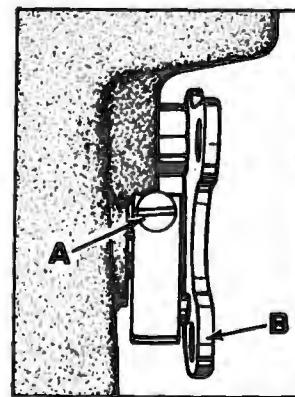
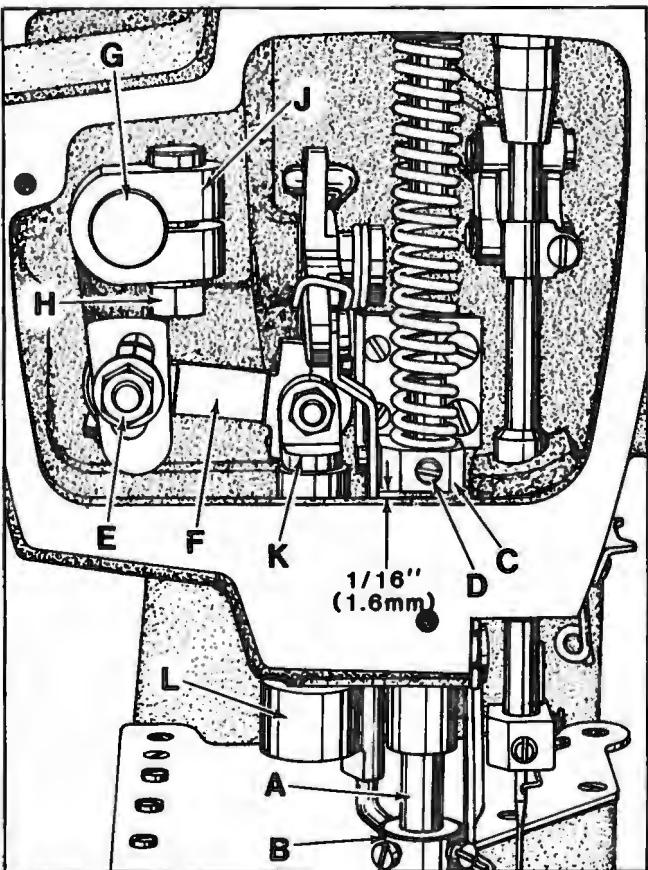
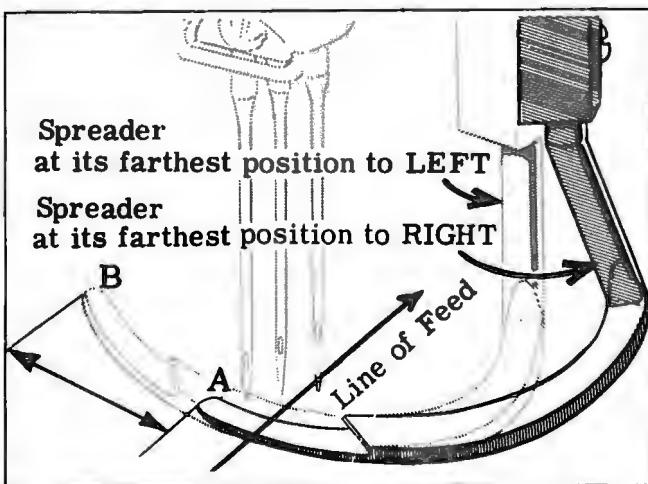
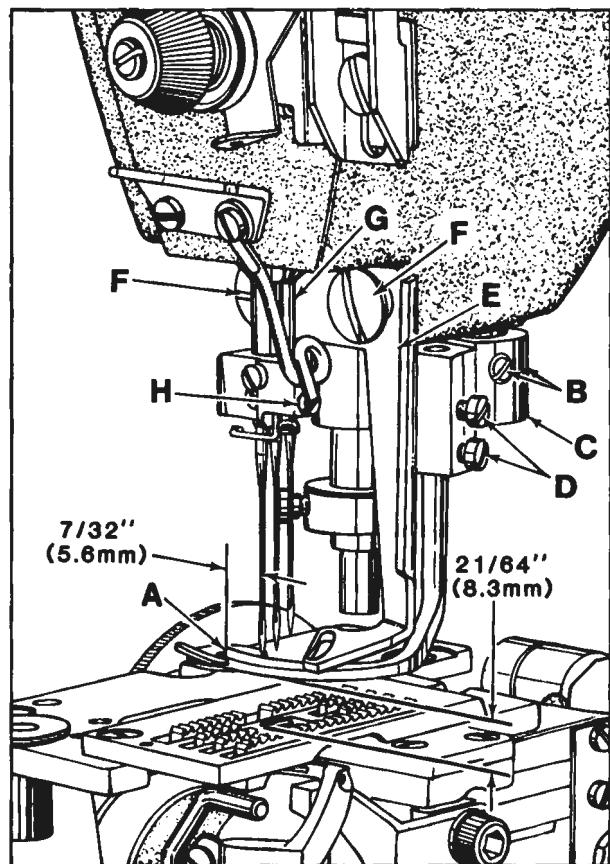

Fig. 13
Fig. 14
Fig. 15
Fig. 16
If adjustment is needed, loosen tension release lever screw (A, Fig. 13), located at the back of the machine and move tension disc separator as required. Retighten screw. After adjustment there should be no binding at any point.
Height of presser bar (A, Fig. 14) is correct when presser foot can be removed by loosening stop collar (B) and depressing foot lifter lever (B, Fig. 13). There should be approximately 1/16 inch (1.6mm) clearance between lower surface of presser bar connection and guide (C, Fig. 14) and bottom surface of head opening in bed casting when foot lifter lever is released and presser foot lying flat on throat plate with feed dog below throat plate.
Adjustment can be made by turning handwheel to position needle bar at bottom of stroke. Loosen screw (D, Fig. 14) and while holding presser foot down on throat plate, position presser bar connection and guide as required to attain specified clearance and retighten screw.
Set presser bar stop collar (B, Fig. 14) so presser foot does not contact spreader when raised.
Set the arc travel of the spreader point (A) to point (B) figure 15 as listed below, by loosening nut (E, Fig. 14) and moving the connecting link (F) up or down to the desired amount of arc travel.
With needle bar at top of its stroke and spreader at extreme left end of its travel, point of thread carrying notch (A, Fig. 16) should extend  $7/32$  inch (5.6mm) to the left of the centerline of left needle. Adjustment can be made by loosening screws (B), reposition spreader as required being sure to push down on spreader holder carrier (K, Fig. 14) and up on spreader holder (L) while tightening screws (B, Fig. 16) because spreader holder (C) acts as lower thrust collar for spreader holder carrier.
Bottom surface of spreader should be set  $21/64$  inch (8.3mm) from top of throat plate (See Fig. 16). At extreme right end of travel, spreader must be set to clear the shank of left needle by  $1/64$  to  $1/32$  inch (.4 to .8mm). Adjustments can be made by loosening screws (D), reposition spreader as required and retighten screws.
Stationary thread guide (E, Fig. 16) should be set to clear right needle by approximately  $3/32$  inch (2.4mm). Attaching screws (F) will allow repositioning as required. Moveable thread eyelet (G) should be positioned with its eye directly over the front end of slot in stationary thread guide (E). With needle bar at bottom of stroke, lower surface of thread eyelet (G) and top of thread guide (E) should have the clearance equivalent to the shank of a Type 121 needle, approximately .080 inch (2mm). Screw (H) will allow repositioning as required.